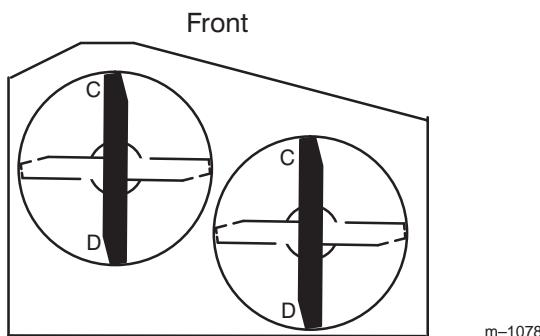

Figure 48
2. Position one blade front-to-rear (Fig. 48). Measure at "C" and "D" locations (Fig. 48) from a level surface to the cutting edge of the blade tips (Fig. 49).
4. Position the blades front-to-rear (Fig. 48). Measure at "C" and "D" locations (Fig. 48) from a level surface to the cutting edge of the blades (Fig. 49).